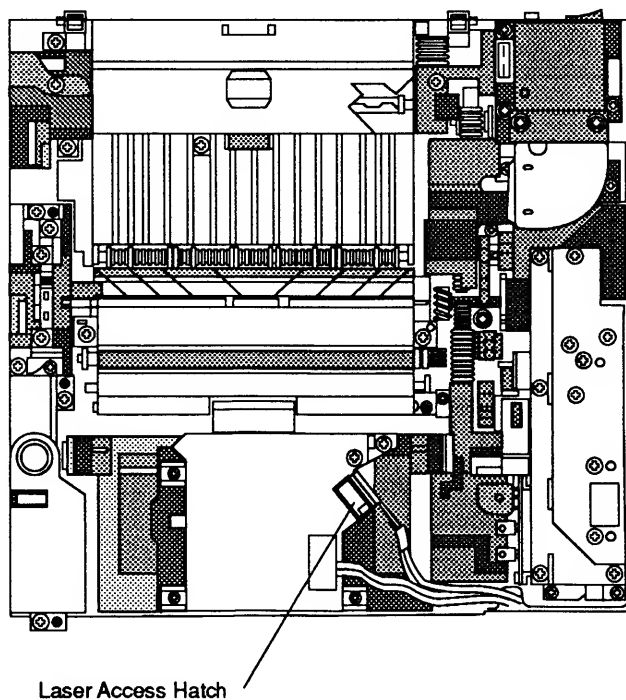

Figure 4-6 Laser Access Hatch
3. With the printer power off, open the laser access hatch on the laser/scanner assembly (**Figure 4-6**).